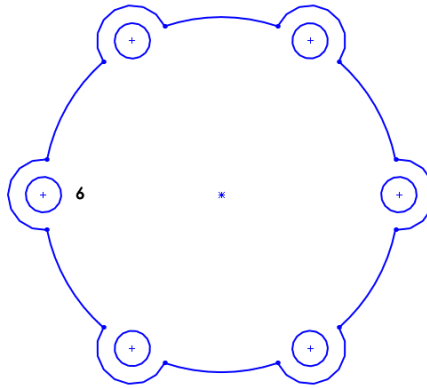

Figure 3-77 Final sketch for Tutorial 3
5. Add the **Display instance count** check box. Accept the remaining default values and choose the **OK** button to create the pattern. The final sketch of the model is shown in Figure 3-77. In this figure, all the relations are hidden for clarity.